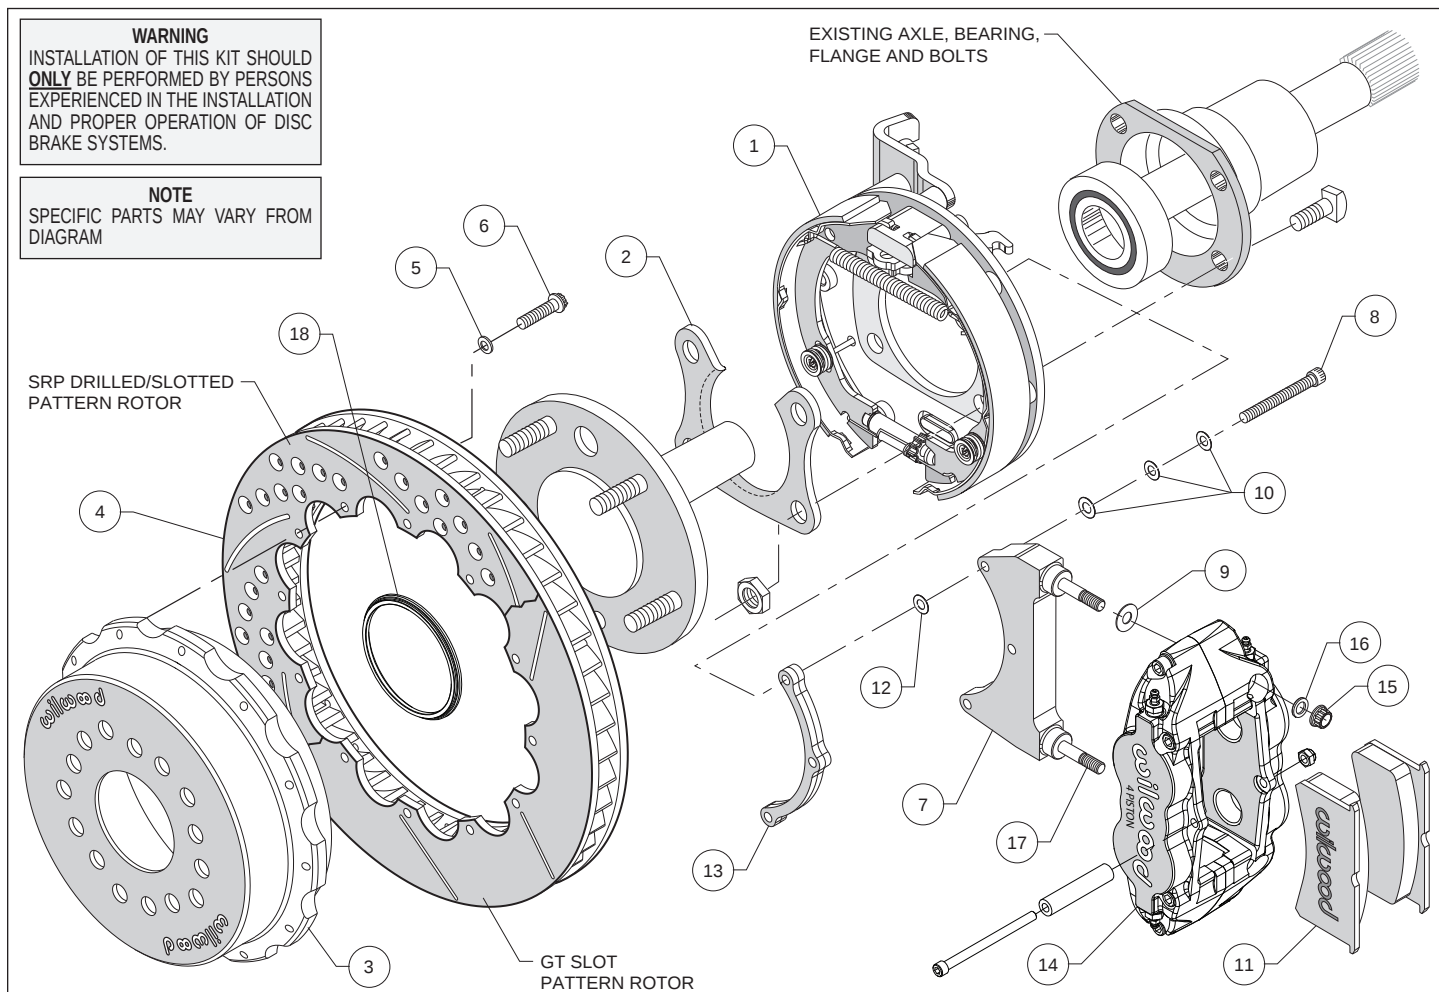
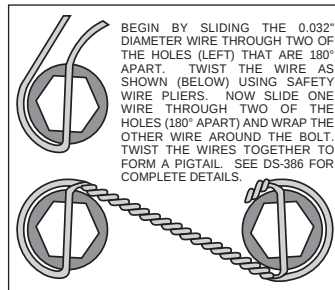

Figure 1. Typical Installation Configuration
Figure 5. Safety Wire Diagram
Assembly Instructions (numbers in parenthesis refer to the parts list and Figure 1 on the preceding pages): **CAUTION:** All mounting bolts must fully engage insert nuts. Be sure to check that all bolts are either flush or protruding through flanged side of insert nut after shimming.
- Orient the bracket assembly (1) as shown in Figure 1 and Photo 1 and slide it onto the axle. Insert the axle and bracket into the axle housing. Ensure that the bracket assembly backing plate fits flush against the axle housing flange.
- Install the bearing retainer (2) with the opening pointing upward and the lip facing inward (toward the bearing), as shown in Figures 1 and 4, and Photo 2. Secure retainer and bracket assembly to the axle housing flange using the Original Equipment Manufacturer (OEM) bolts, washers, and nuts, Figure 1. Apply red *Loctite*® 271 to the OEM bolt threads and torque to OEM specifications.
- **NOTE:** Please reference the caution statement at the beginning of the assembly instructions. The caliper mounting bracket (7) should initially be installed with clean, dry threads on the mounting bolts. Orient the bracket as shown in Figure 1 and Photo 3, and install using
bolts (8) and three flat washers (10). Initially place one .015" shim washer (12) on each bolt between the bracket (7) and spacer (13), Figure 1. Temporarily tighten the mounting bolts. **NOTE:** End of bolt should not exceed inside face of insert. The bracket must tighten squarely against the back side of the bracket kit assembly (1). Later, after the caliper alignment has been checked, the mount bolts will be secured using red Loctite®.
- Orient the rotor (4) and the hat (3) as shown in Figure 1 and Photo 4. Attach rotor to hat using bolts (6) and washers (5). Using an alternating sequence, apply red Loctite® 271 to the threads, and torque to 140 in-lbs. For an added measure of security, the bolts may be safety wired using standard 0.032 inch diameter stainless steel safety wire as shown in Figure 5. Please refer to Wilwood's data sheet DS-386 (available at www.wilwood.com/Pdf/DataSheets/ds386.pdf) for complete safety wire installation instructions.
- Slide the rotor registration adapter (18) onto the axle register on the axle flange with the smaller O.D. facing toward the rotor/hat (3/4), Photo 5. Align the hole pattern in the hat with the stud pattern on the axle flange and slide into place, Figure 1 and Photo 6. **NOTE:** The rotor/hat must fit flush against the axle flange or excessive rotor run out may result. Install three lug nuts (finger tight) to keep the rotor/hat assembly in place while continuing with the installation. **NOTE:** Some OEM and after market axles come with stud sizes larger than 0.50" diameter. Verify stud size and have a qualified machine shop drill the bolt circle of the hat/rotor to the correct stud size, if necessary.
- Lubricate the caliper mounting studs (17) with lightweight oil. Initially place one .035" thick shim (9) on each stud as shown in Figure 1 and Photo 7. Mount the caliper (14) onto the bracket (7) using lock nuts (15) and washers (16), Figure 1. Temporarily tighten the lock nuts and view the rotor through the top opening of the caliper. The rotor should be centered in the caliper, Photo 8. If not, adjust by adding or subtracting shims (12) between the bracket (7) and the spacer (13). Always use the same amount of shims on each of the three mounting bolts. Once the caliper alignment is correct, remove the bracket mounting bolts (8) one at a time, apply red Loctite® 271 to the threads, and torque to 180 in-lb.